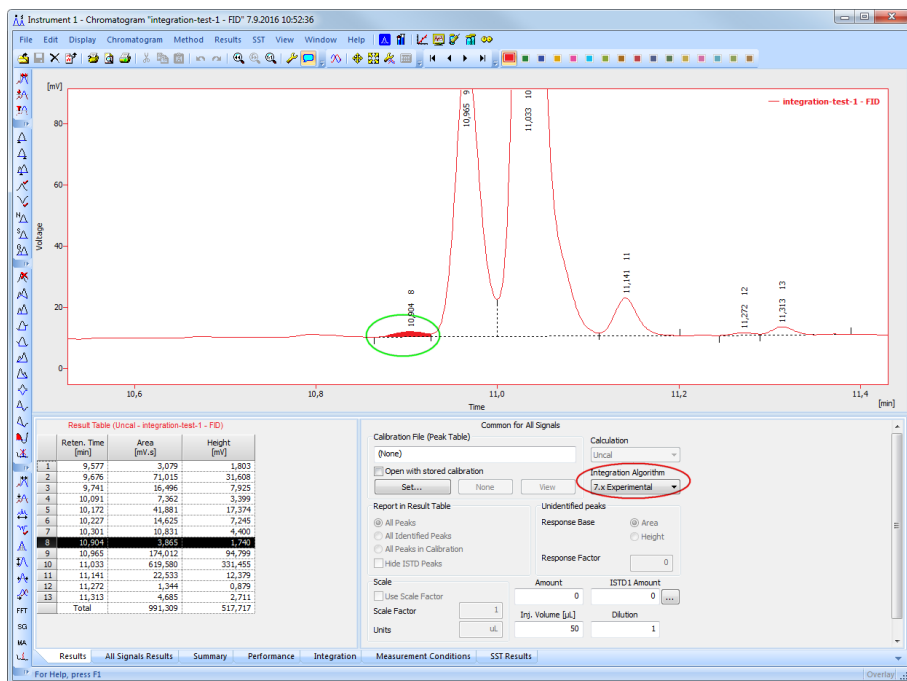

Fig 7: Integration Algorithm 7.0 Experimental
- **Fig 7** on pg 7. has Integration Algorithm set to **7.x Experimental** which is optional and must be selected to be used.